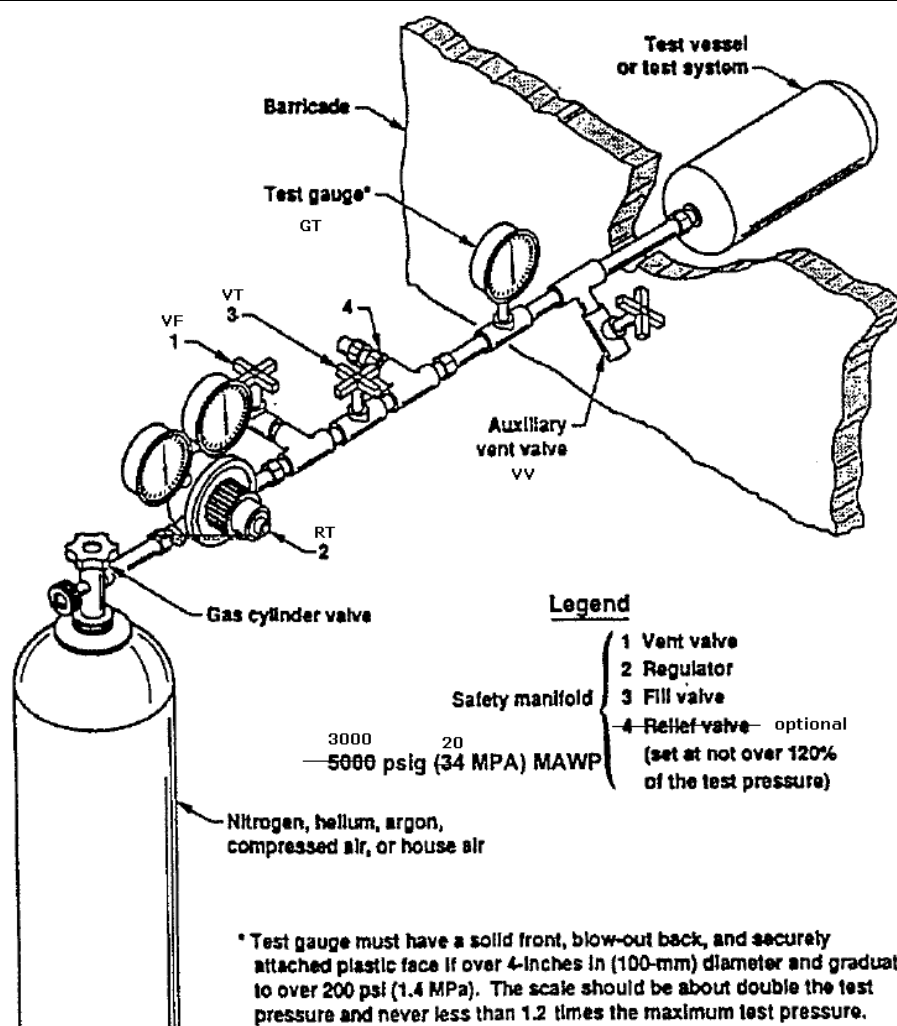

Fig. 17 Pressure Test Set up (Pneumatic, in-situ)
2. Assemble remote gas cylinder, regulator(RT), test gauge(GT) for 563 psig test pressure, test isolation valve(TV), vent valve(VV), fill vent valve (VF) as shown in fig. 17 below, and locate around corner from experiment, out of line sight, and behind wall of cabinets. Survey for, and remove any hazardous material (such as radioactive sources, flammable liquids, glassware, etc.) from line of sight to test area. Have fire extinguishers on hand. Note that the pressure relief valve shown in fig. 17 is optional, since test feed ports T1 and T3 cannot be isolated from the system pressure relief valves.
13. Screw in test regulator slowly, in steps in steps of 20% MAWP (300 psi), each time closing VT, and watching GT to see that stable pressures are achieved. Watch GT for 5 minutes minimum, each time. If leaks occur, back off pressure to 300 psig (20% MAWP) max. and inspect to find leak. See note on possible methods below fig. 17. Once found, back off RT fully, open VV to depressurize fully, and fix leak. If no leaks occur, continue increasing pressure until 1500 psig reads on test gauge. Record pressures on system gauges. Increase pressure to 1875 psig. Hold for 5 minutes, if stable then back off RT, close test gas cyl. valve and release system pressure; otherwise depressurize and fix leak as above. Note that it may be possible to tell when 1500 psig relief valve opens, however this should not be regarded as accurate since 1500 psig relief valve could leak during test.
26. Screw in RT handle slowly, in steps of 20% MAWP (90 psi), each time closing VT, and watching GT to see that stable pressures are achieved. Watch GT for 5 minutes minimum, each time. If leaks occur, back off pressure to 90 psig (20% MAWP) max. and inspect to find leak. See note on possible methods below fig. 17. Once found, back off RT fully, open test vent valve VV to depressurize fully, and fix leak. If no leaks occur, continue increasing pressure until 450 psi reads on GT. Record pressures on system gauges. Increase pressure to 563 psig. Hold for 5 minutes, if pressure is stable, then back off regulator fully, close test gas cyl. valve, and release system pressure through VV; otherwise depressurize and fix leak as above. Note that it may be possible to tell when 450 psig relief valve opens, however this should not be regarded as accurate since 450 psig relief valve could leak during test.
33. Screw in test regulator slowly, in steps of 20% MAWP (70 psi, 50 psi initial), each time closing VT, and watching GT, to see that stable pressures are achieved. Watch GT for 5 minutes minimum, each time. If leaks occur, back off pressure to 50 psig (20% MAWP) max. and inspect to find leak. See note on possible methods below fig. 17. Once found, back off RT fully, open VV to depressurize fully, and fix leak. If no leaks occur, continue increasing pressure until 350 psig (250 initial) reads on GT. Record pressures on system gauges. If gas system pressure gauge (P3) cannot read higher than 438 (313 initial) psi, then hold for 5 minutes, then back off regulator, close test gas cyl. valve, and release system pressure. Remove P3, plug and repressurize to 438 psig (313 initial) as above. Hold for 5 minutes, if stable, then back off regulator, close test gas cyl. valve and release system pressure; otherwise depressurize and fix leak as above. Replace gas system gauge, if removed. Note that it may be possible to tell when 350 (250 initial) psig relief valve opens, however this should not be regarded as accurate, since 350 (250 initial) psig relief valve could leak during test.